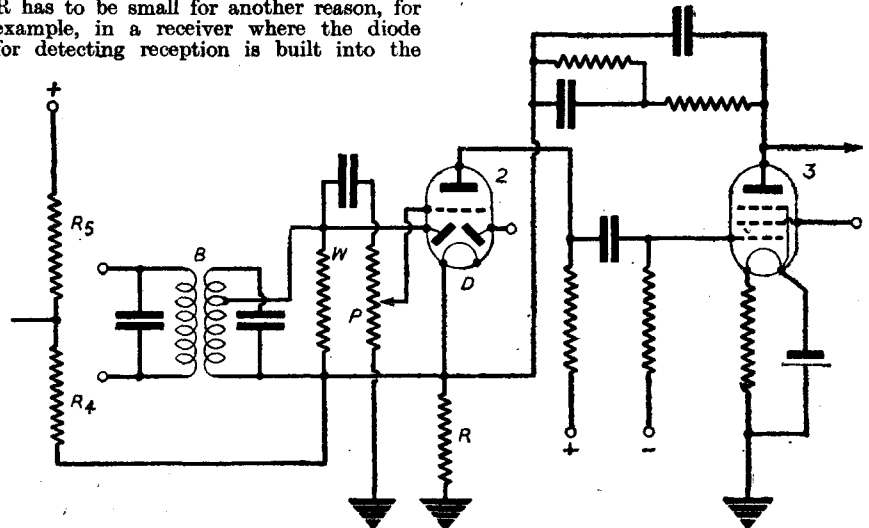
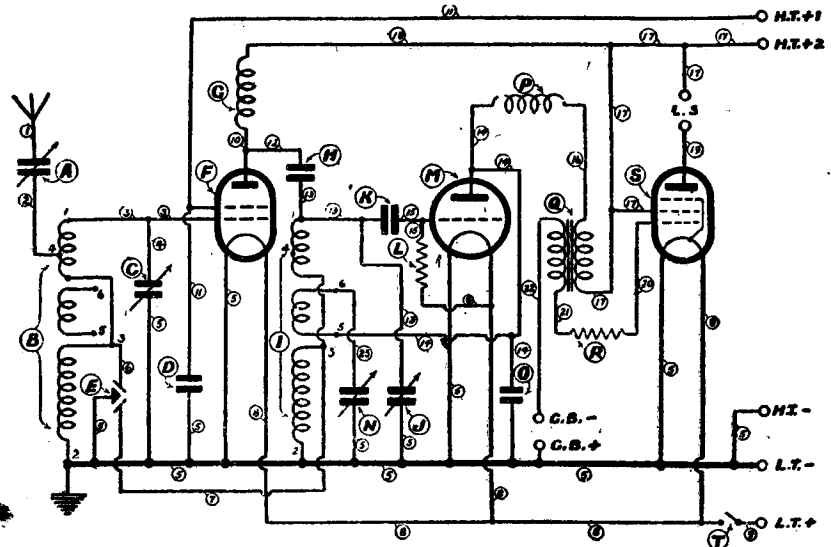

Fig. 2.—The circuit arrangement where a diode is used for detection.
Fig. 1.—Theoretical circuit diagram of a three-valve receiver.
envelope of the next following low-frequency amplifier valve and shares a cathode in common with that valve, as shown in Fig. 2. In that arrangement the high-frequency or intermediate frequency is led to the diode  $D$  via the band filter  $B$ , and the low frequency obtained by rectification is tapped from the potentiometer  $P$ . This serves at the same time for carrying the grid-bias voltage generated at the resistance  $R$  so that the lower end of the potentiometer must be at the lower end of the resistance  $R$ . In the minimum volume setting, however, the volume is not completely reduced to zero, since a part of the low-frequency voltage generated by the rectification appears on the resistance  $R$ , because the series circuit of  $D$  and  $R$  is across the load resistance  $W$  of the diode. For this reason also it is desirable to have a small resistance  $R$ , as well
It is for those readers who are hazy on the point that we have had the two diagrams shown here specially prepared. As you see, Fig. 1 is a conventional circuit diagram with certain letters and numbers added. Fig. 2, on the other hand, is a perspective drawing, showing how a receiver following the circuit of Fig. 1 would be made up. The letters and numbers appearing on the circuit diagram are repeated on the receiver, and show clearly to what component each symbol refers.
Look at the top left-hand corner of the circuit diagram (Fig. 1). There you will see a sign like a crow's foot. This is the universally accepted symbol for the aerial. The aerial is joined to the aerial terminal or binding screw on the bottom right-hand corner of the set, as shown in Fig. 2.
From the crow's foot on Fig. 1 is a line marked (1), leading to a symbol consisting of two thick lines with an arrow through them marked (A). If you look for the same signs on Fig. 2, you will see that (1) refers to the wire from the aerial terminal to a little oblong affair with a knob on it, and that (A) refers to the oblong thing itself. If you don't immediately recognise this latter as what is known as a pre-set condenser, you will be able to find its name by referring to the key published with this article.
Why this is shown in Fig. 1 as three separate "springs" is because it contains three separate windings. The top one tunes in to the medium waves, the middle one in this case is not used, and the bottom one when joined to the top one by means of the wave-change switch (E) tunes in to the long waves. Thus you can always see from the circuit diagram just how many
Perhaps we should explain that the small numbers 1, 2, 3, 4, 5, and 6 round the base of each tuning coil, and shown on Fig. 1 not in circles, are those used by the manufacturers to mark the terminals of the coils, and have no connection with our system of numbering the various connecting wires.